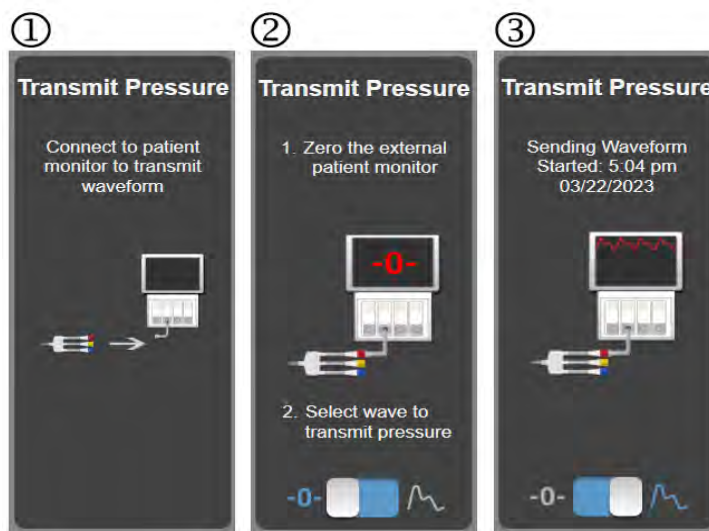

Figure 11-10 Transmit arterial pressure waveform to patient monitor
- 4 Zero patient monitor and confirm 0 mmHg is displayed. See ② in figure 11-10. Refer to the patient monitor instructions for use.
- 5 Toggle to the **Transmit Waveform** icon  to begin pressure signal output to the patient monitor. See ③ in figure 11-10.
- 6 A “**Sending Waveform**” message will be displayed when the live waveform is being transmitted to the connected patient monitor. See ③ in figure 11-10.